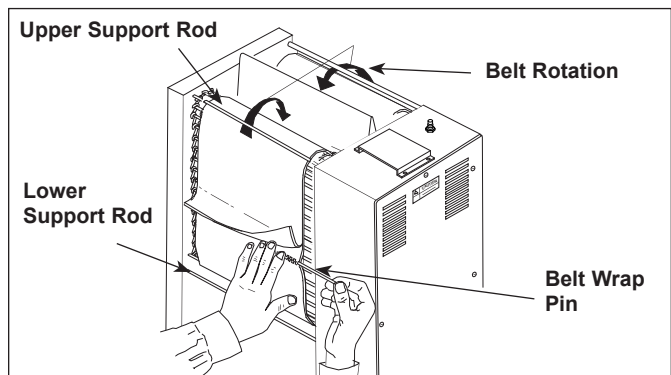

Figure 7. Installing Belt Wrap
6. Install the new Belt Wraps around the Conveyor Belt Chains inside the rods with the zipper flap exposed and hanging down (Figures 7 & 8).